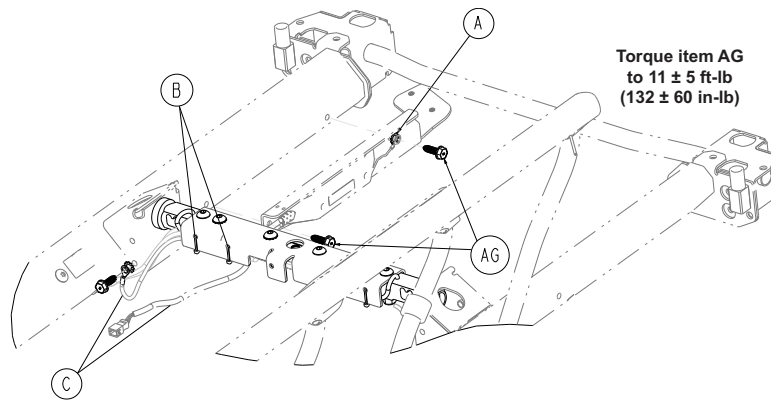

Figure 39 – IR/nurse call assembly
7. Using wire cutters, cut the two cable ties (B) that secure the IR/nurse call assembly cable to the head end lift header to access the cable connector (Figure 39). Discard the cable ties.
10. Using a ratchet and 1/2" socket, remove the two hex washer head thread rolling screws (AG) and the external tooth lock washer (A) to remove the IR/nurse call assembly (Figure 39). Save the hex washer head thread rolling screws and external tooth lock washer. Discard the IR/nurse call assembly.
- c. At the foot end of the IR/nurse call assembly, pull the two cables (C) down and hold the cables out of the way while you secure the foot end of the IR/nurse call assembly (Figure 39).
15. Using two supplied 8" cable ties (3000-300-113) (B), secure the IR/nurse call assembly cable to the head end lift header on the patient right side (Figure 39). Using wire cutters, cut the excess cable ties.